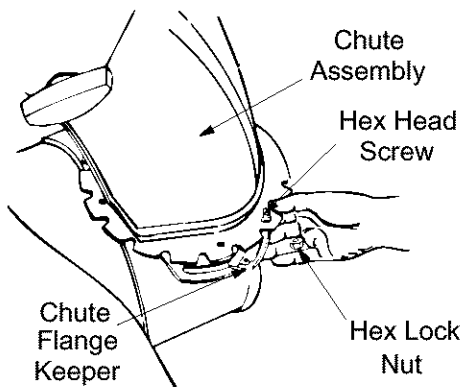

Figure 7
Place chute assembly (C) over chute opening, with the opening in the chute assembly facing the front of the unit. Place chute flange keepers beneath lip of chute assembly, with the flat side down. Secure with hex head screws and hex lock nuts as shown in Figure 7. Tighten with two 7/16" wrenches. Do not over-tighten.